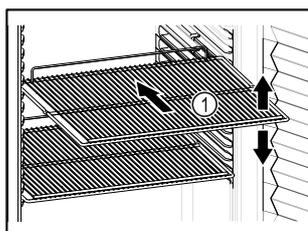

Fig. 59 Example illustration
- ❑ If there are adjustable shelves Fig. 59 (1), position them as required.